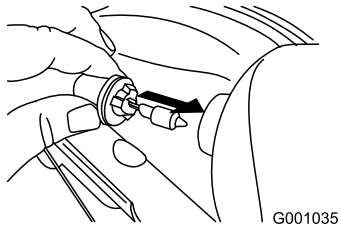

Figure 60
4. Insert a new bulb into the back of the headlight (Figure 60).